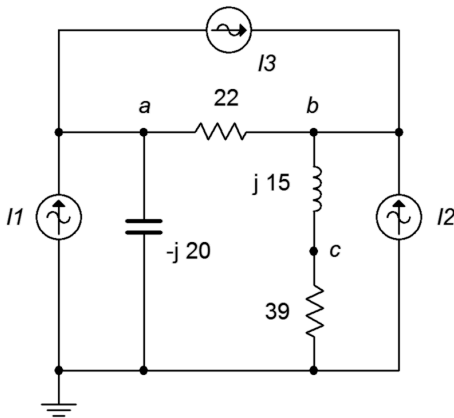

Figure 6.20
39. Use nodal analysis to find the current through the $22\ \Omega$ resistor in the circuit of Figure 6.20. $I_1 = 800\text{E-}3\angle 0^\circ$, $I_2 = 2.5\angle 0^\circ$, $I_3 = 2\angle 20^\circ$.
40. Given the circuit in Figure 6.20, use nodal analysis to determine v_c . $I_1 = 4\angle 90^\circ$, $I_2 = 10\angle 120^\circ$, $I_3 = 5\angle 0^\circ$.